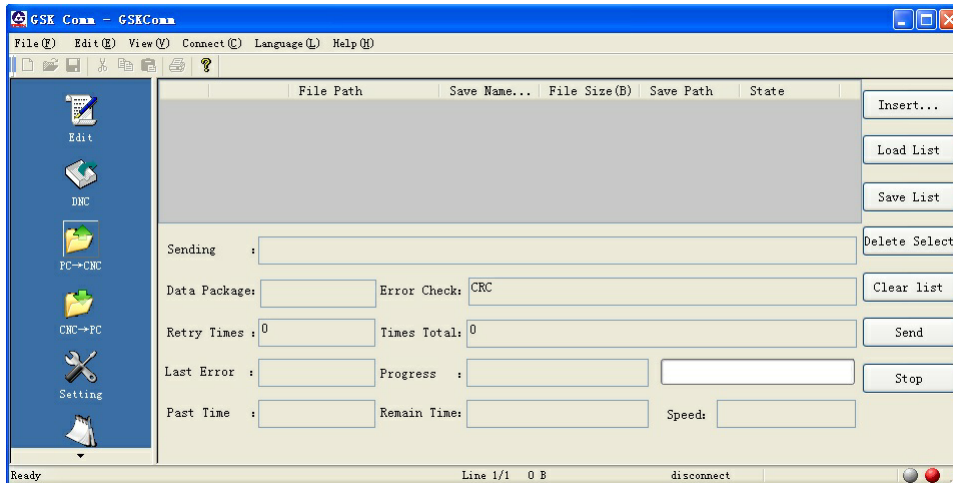

Fig.11-2-2-5
3. Click  to add the files to be sent to CNC, as shown in Fig.11-2-2-6.